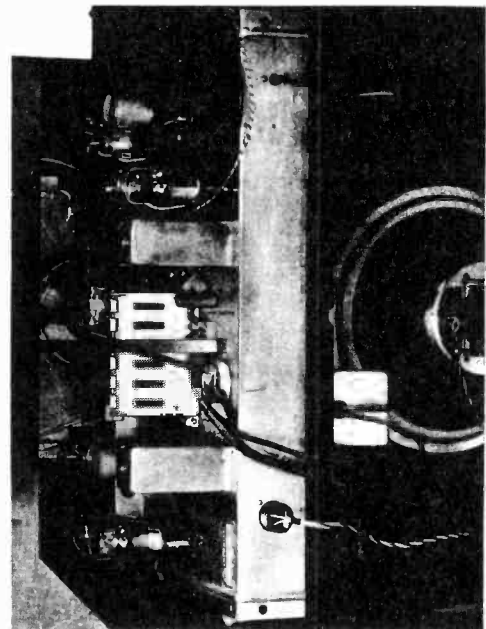

FIG. 8
10. Referring to Fig. 8, mount the Relay Assembly to the underside of the chassis shelf, using the two wood screws and two spacer washers supplied. Place the spacer washers between the base of the Relay Assembly and the cabinet shelf, passing the screws through the holes in the spacer washers. Arrange the wire connector cables to the Magnet Assembly and Relay Assembly as shown in Fig. 8 and put the 6U7G tube back in the pocket.